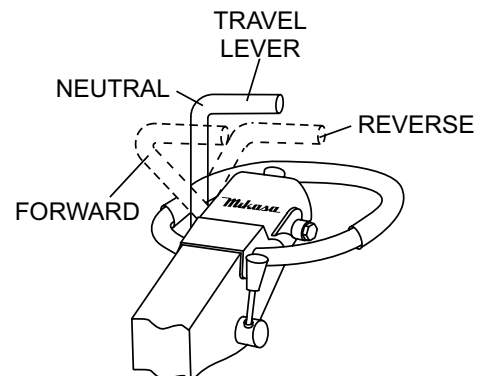

**Figure 16. Throttle Lever (Fast)**
- Grasp the compactor's hand grip, and move the engine throttle lever (Figure 16) quickly to the fast position.